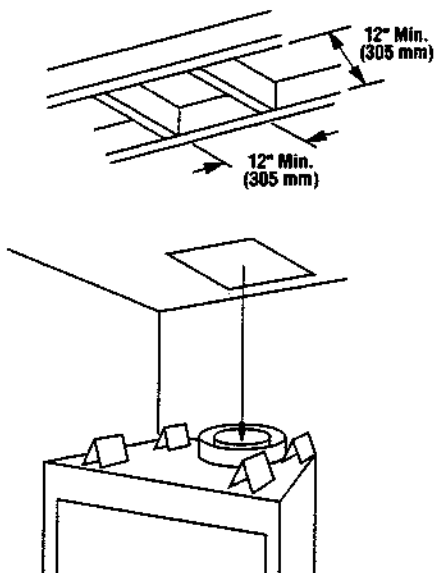

Figure 17
A. Use a plumb line from the ceiling above the appliance to locate center of the vertical run. Cut and/or frame a 12" x 12" inside (305 mm x 305 mm) minimum opening about this center mark (Figure 17).
**C.** If the vertical route is to penetrate a ceiling, use plumb line to locate the center above the appliance. Cut and/or frame a 12" x 12" (305 mm x 305 mm) inside opening about the center (refer to *Figure 17*).